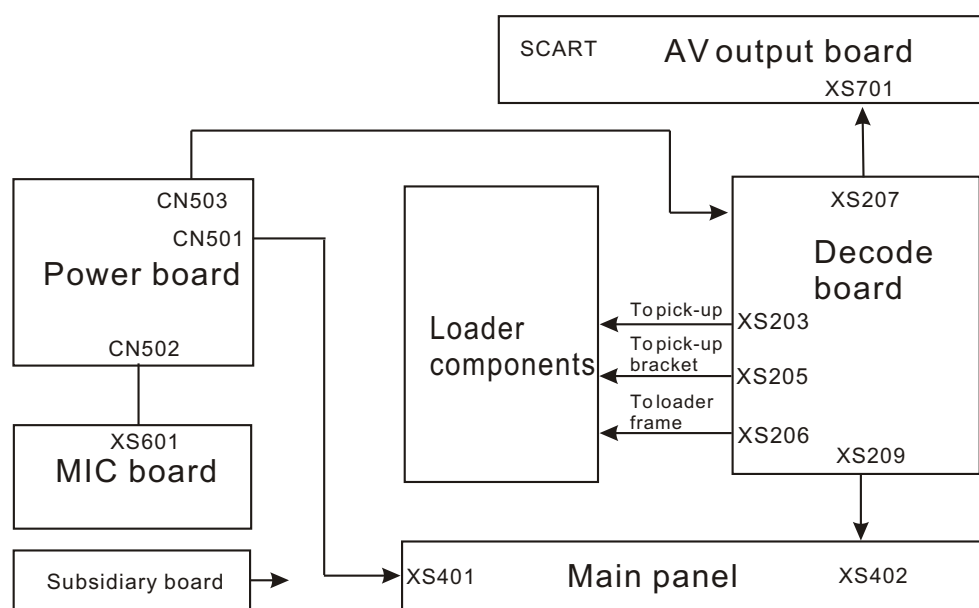

Figure 3.1.1.1 PCB components compose block diagram
1. DVD player DK3510S is composed by the following PCB components, whole set PCB components compose block diagram, shown as the following figure 3.1.1.1: